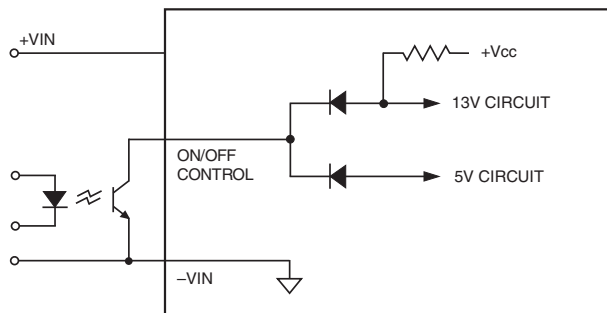

Figure 9. Driving the Negative Logic On/Off Control Pin (simplified circuit)
**Positive** (“P” suffix) logic models are enabled when the on/off pin is left open (or is pulled high, applying +3.5V to +15V with respect to –Input) as per Figure 9. Positive-logic devices are disabled when the on/off pin is pulled low (0 to 1V with respect to –Input).
applying +2.5V to +15V), and on when pin is pulled low (-0.1 to +0.8V) with respect to -Input as shown in Figure 9.